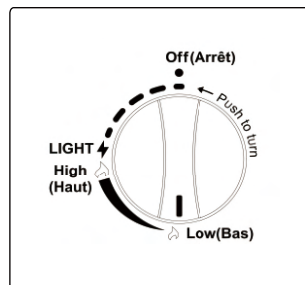

Figure 2
4. Press the control knob, turn counterclockwise to the "High" position, Continue to hold. Press the control knob for 30 seconds. When the burner lights, release the control knob (Figure 2).